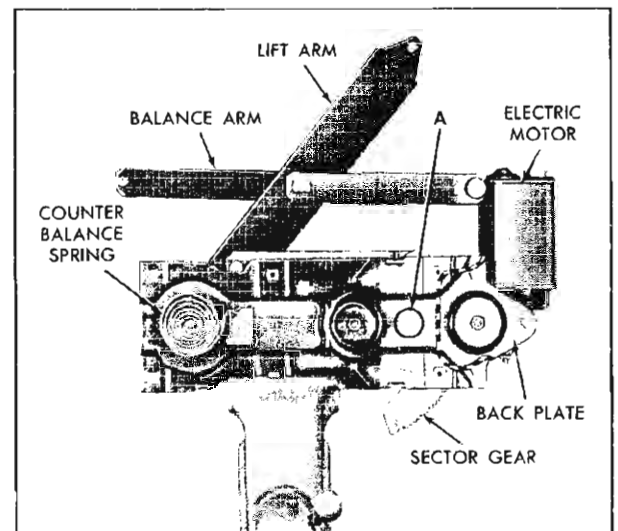

Fig. 3-43 Electric Window Regulator
1. Remove electric window regulator assembly from door and/or rear quarter and clamp securely in vise (Fig. 3-43).
2. Drill a  $\frac{1}{4}$ " hole through sector and back plate within area indicated by "A" (Fig. 3-43).
4. Remove motor attaching bolts and remove sector assembly from regulator (Fig. 3-43).